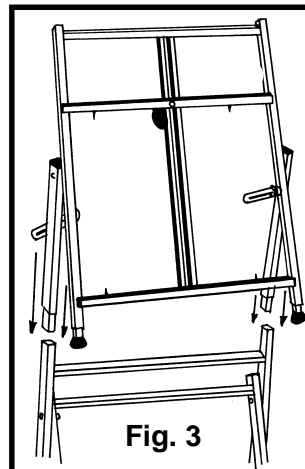

Fig. 3
5. Attach the Upper Assembly [A] on to the Lower Stand Assembly [B] by inserting the [2] rear legs of the Upper Assembly [A] into the Lower Stand Assembly [B]. See Fig. 3 at right.